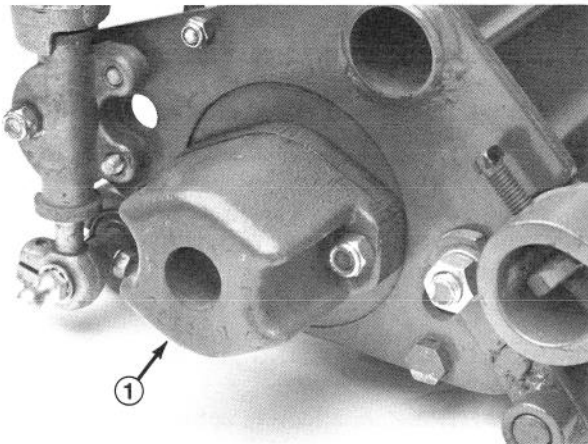

Figure 13
1. Remove the mounting nuts from the counterbalance end cap and remove end cap from the mounting studs (Fig. 13).
2. Remove counterbalance End Cap (Fig. 13).
3. Remove the large bearing adjustment nut from one end of the reel shaft (Fig. 13) and the special spline nut at the opposite end of the reel shaft.